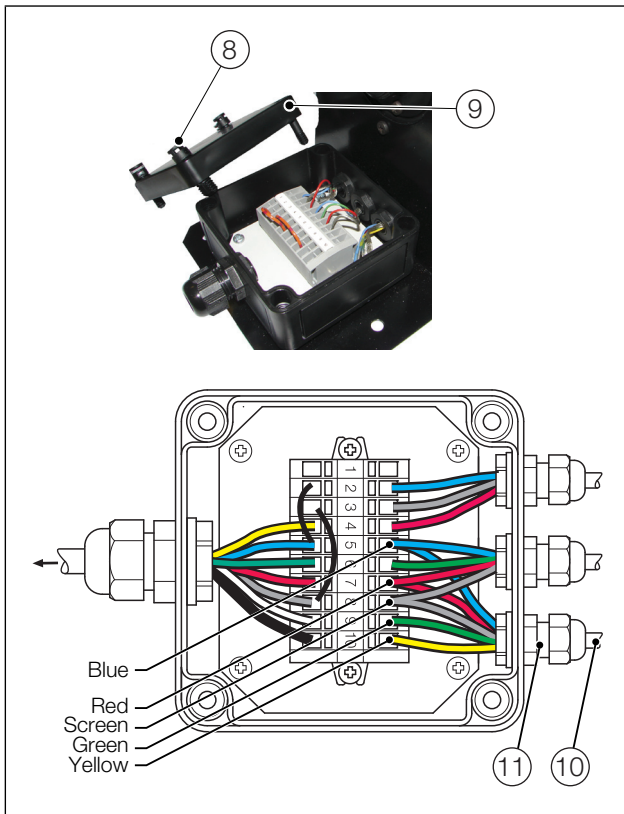

Fig. 3.2 Connecting wiper module
3. Referring to Fig. 3.2:
- a. Release 4 captive screws (8) securing terminal box cover (9) and remove the cover.
- b. Remove M12 blanking plug (11) and replace with cable gland (supplied).
- c. Route wiper module cable (10) through terminal box cable gland (11).
- e. Refit terminal box cover (9) and secure with 4 captive screws (8).